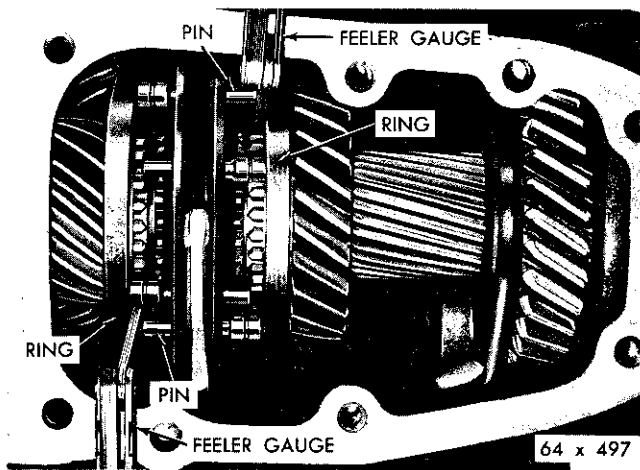

Fig. 17—Measuring Synchronizer "Float"
- (1) Using Tool C-3281, flange holding tool, remove the flange retaining nut and washer.
- (2) If necessary, attach puller Tool C-452, and remove the flange assembly.
- (3) Remove the bolts that attach the cover to the case. Remove the cover then discard the gasket.
- (4) Using a pair of feeler gauges, measure the synchronizer float. The measurement of the "float" should be taken before any further disassembly of the transmission is attempted.
- (5) The synchronizer "float" should be between .050 and .090 inch, when measured between the synchronizer outer ring pin and the opposite synchronizer outer ring (Fig. 17). This measurement must be made on two pins, 180 degrees apart with equal gap on both ends for "float" determination.
- (6) There should be a snug fit between the pins and the outer rings, similar to that obtained when measuring with a micrometer.